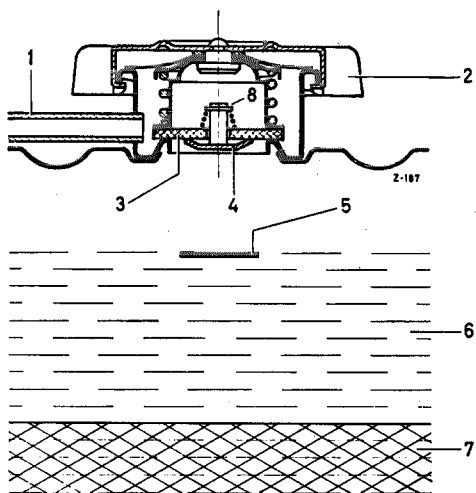

Fig. 50 — 1/2
12. Check the valves (3) and (4) for freedom of movement. The underpressure valve (4) must not jam, as the resultant partial vacuum can cause the water compartment of the radiator to collapse (Fig. 50 — 1/2). For this reason, it is particularly important to check that the rubber seal (3) has not become swollen; if this happens, the underpressure valve can no longer lift off the rubber seal.
13. If necessary, replace the rubber seal (3). To do this, use a knife or a screw-driver to pry the rubber seal out of the fold in the metal, applying pressure at the edge of the seal.